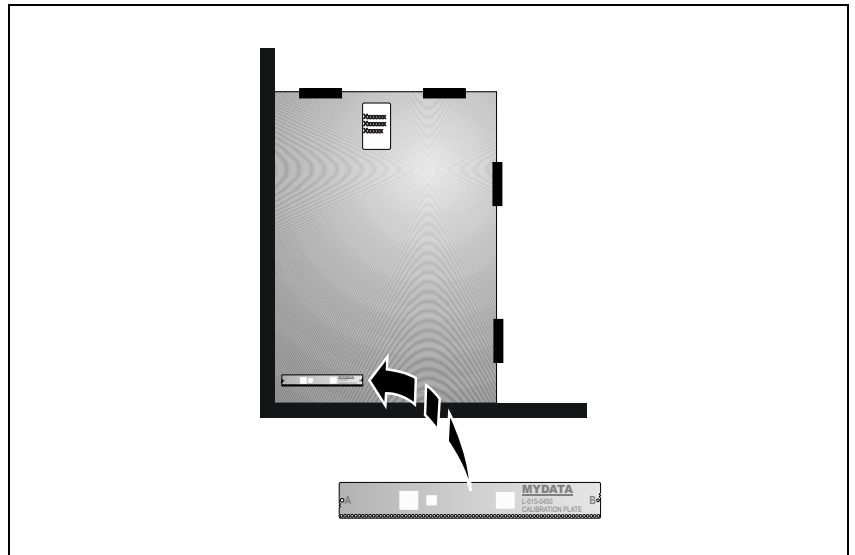

Figure 4-2. Calibration board (L-015-0450).
- When prompted, place the area calibration plate (L-015-0450) on the calibration background plate, see Figure 4-2. Set it approximately aligned to the X axis.